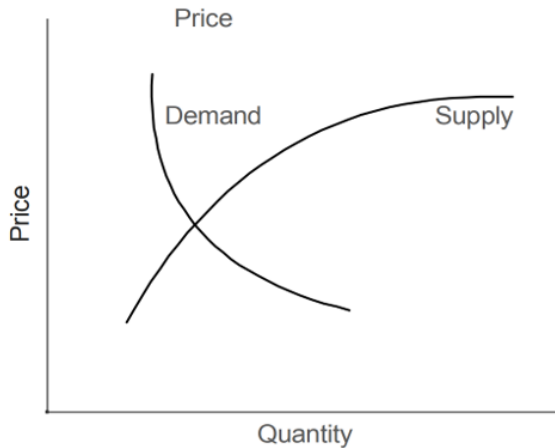

Figure 1: Non-Linear Market Model
- Usually, the demand will be represented by a curve that slopes downwards, and the supply by a curve that slopes upwards, as illustrated in Figure 1.